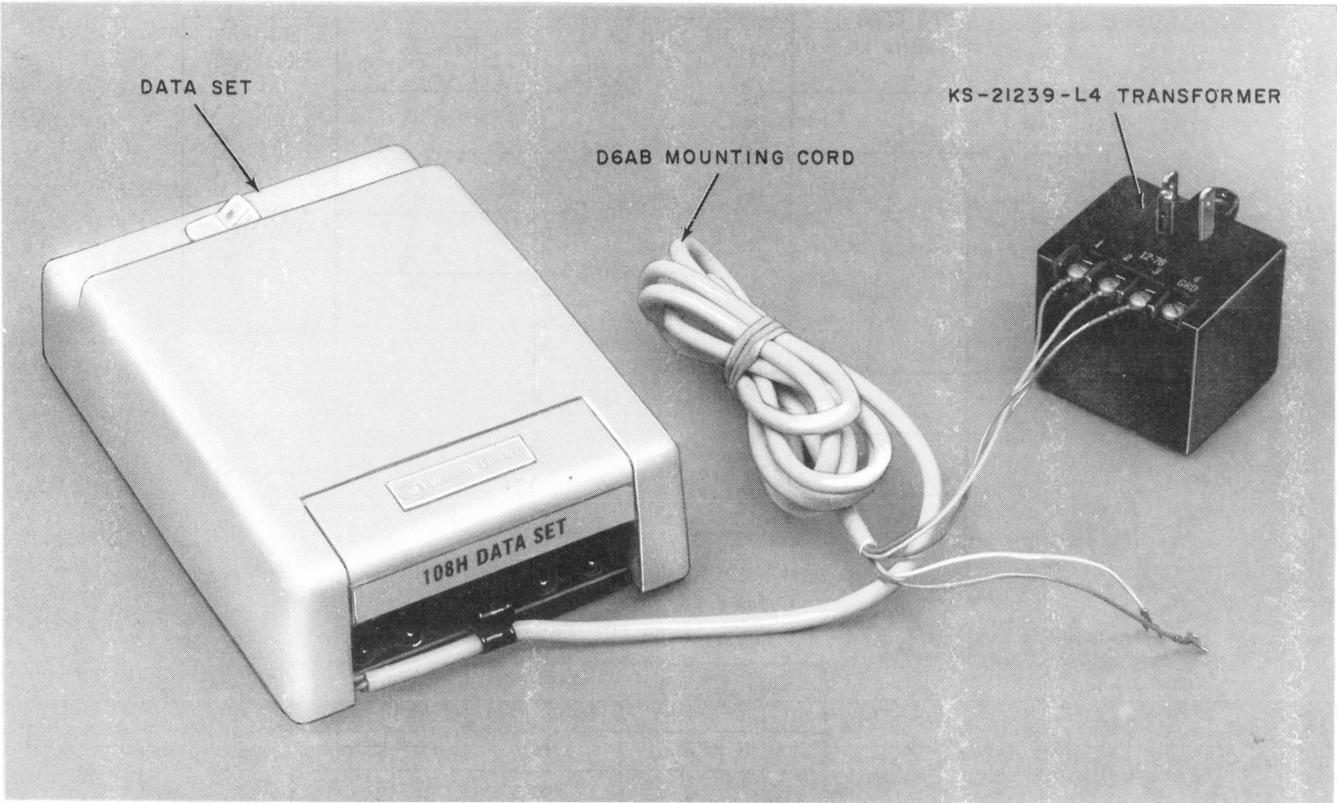

Fig. 4—DS 108H Shown Connected to KS-21239-L4 or -L5 Transformer
**3.03** The data set must be connected to the KS-21239-L4 or -L5 transformer and telephone line using locally furnished wire. A D6AB mounting cord is recommended (Fig. 4).